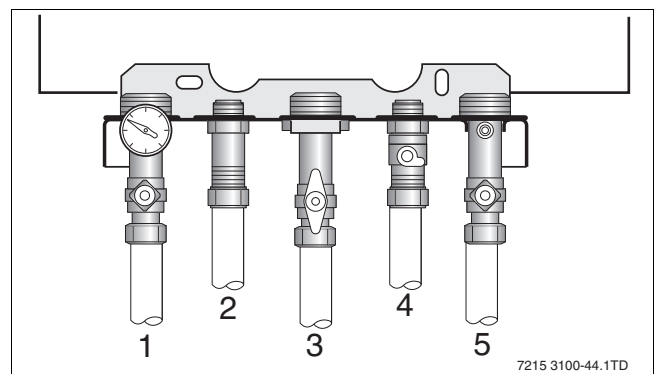

Fig. 44 Servicing shut off valves
- If necessary open the CH flow and CH return servicing valves (→ fig. 44, item 1 and 2).
- Fill the system to a pressure of approx. 1.5 bar (→ fig. 44, item 3).